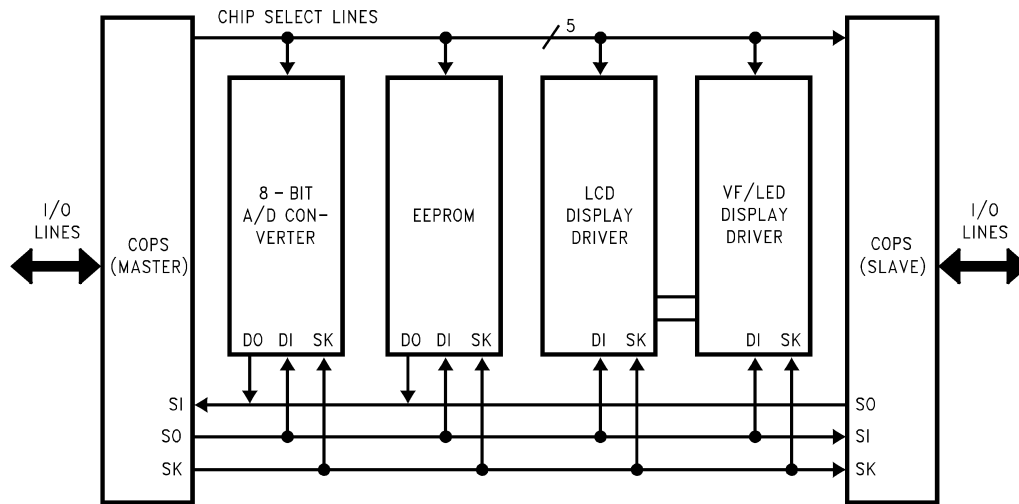

Figure 37. MICROWIRE/PLUS Application
MICROWIRE/PLUS is a serial SPI compatible synchronous communications interface. The MICROWIRE/PLUS capability enables the device to interface with MICROWIRE/PLUS or SPI peripherals (i.e. A/D converters, display drivers, EEPROMs etc.) and with other microcontrollers which support the MICROWIRE/PLUS or SPI interface. It consists of an 8-bit serial shift register (SIO) with serial data input (SI), serial data output (SO) and serial shift clock (SK). Figure 37 shows a block diagram of the MICROWIRE/PLUS logic.
Setting the BUSY bit in the PSW register causes the MICROWIRE/PLUS to start shifting the data. It gets reset when eight data bits have been shifted. The user may reset the BUSY bit by software to allow less than 8 bits to shift. If enabled, an interrupt is generated when eight data bits have been shifted. The device may enter the MICROWIRE/PLUS mode either as a Master or as a Slave. Figure 37 shows how two microcontroller devices and several peripherals may be interconnected using the MICROWIRE/PLUS arrangements.